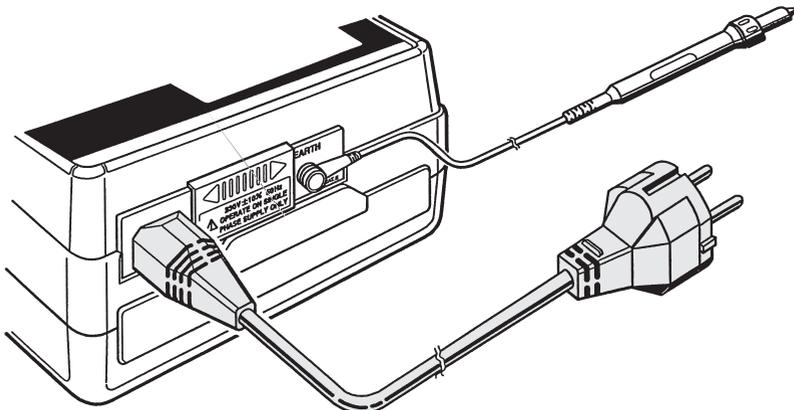

Fig 9
2. Connect the mains lead to the IEC socket of the instrument(see fig9).
4. Connect the instrument to the RCD to be tested either via a suitable socket outlet (see fig 9) or using the OMA DIEC(Model7133) test lead set (see fig 10) .